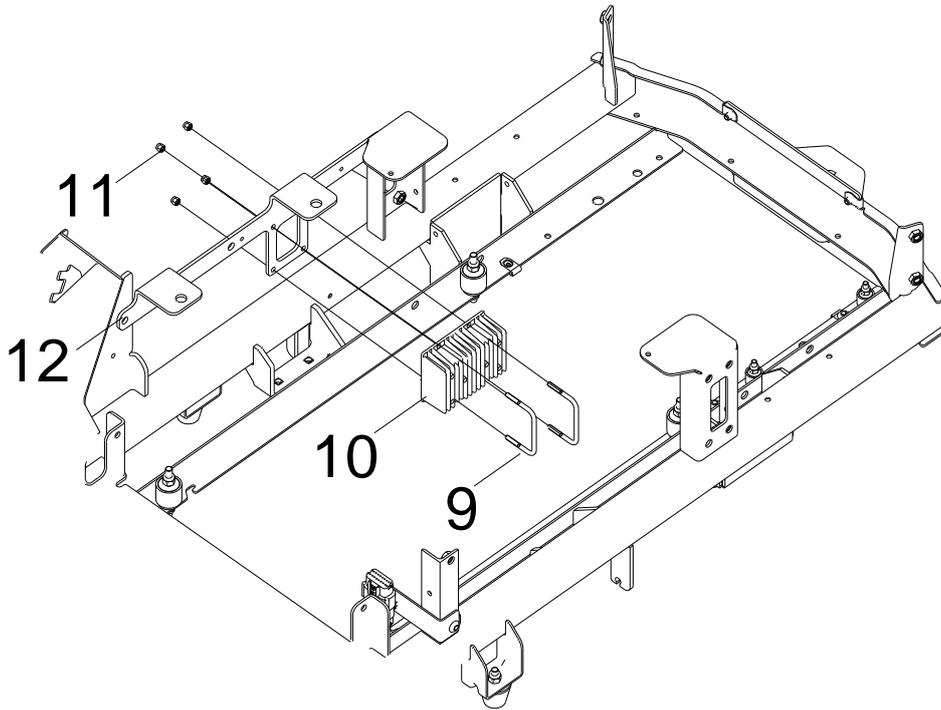

Fig. 5
6. Refer to the wiring method shown in Fig. 5 above, install the three-phase terminals and hall sensor connectors.